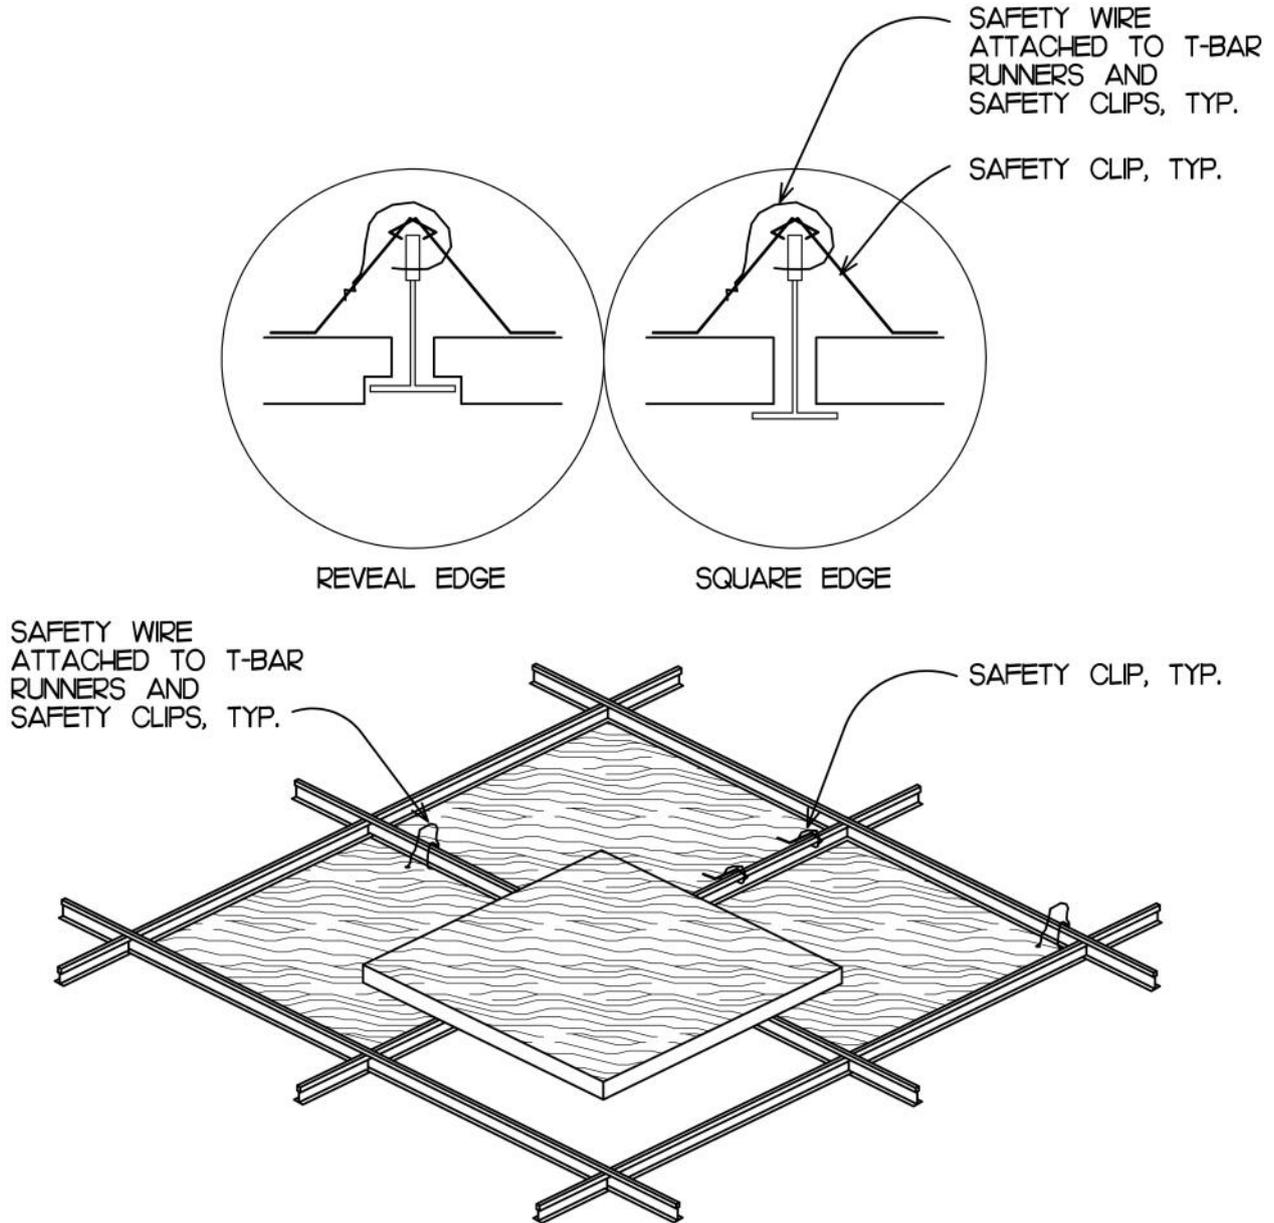

Figure 1-2 Traditional (Lay-In) Murano Acoustics Ceiling Panels
3.3. The ceiling panels for the lay-in installation shall be 2' x 2' or 2' x 4' Murano Acoustics panels as shown in Figure 1-2.